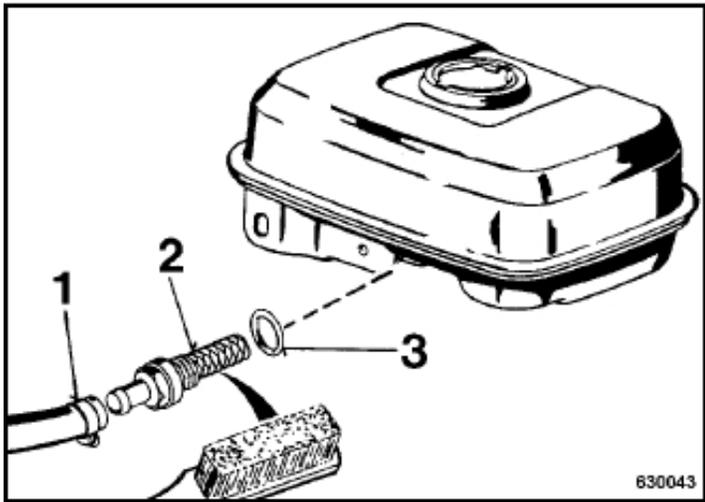

Fig. 52
- | Open the hose clamp 1 (Fig. 52), pull the hose off.
- | Unscrew the fuel strainer (2).
- | Insert a new seal ring (3).
- | Screw the fuel strainer (2) in tightly, fasten the hose (1) and reinstall the fuel tank.